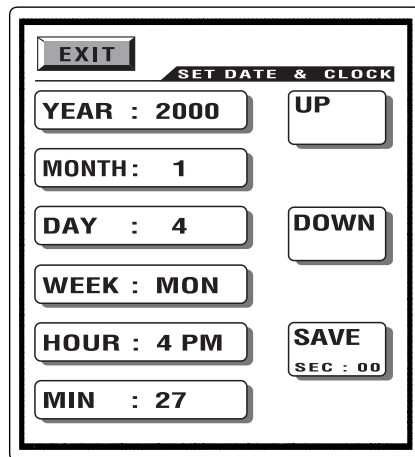

Figure 19
2. Move the cursor on the Touch Screen to **6. SET DATE & CLOCK** by using the joystick. Enter this mode by pushing the joystick down. Refer to figure 19.